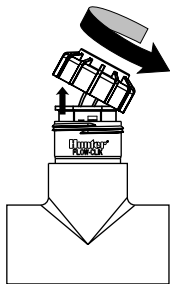

Figure 1
2. Unscrew the cap from the top of the body (figure 1).